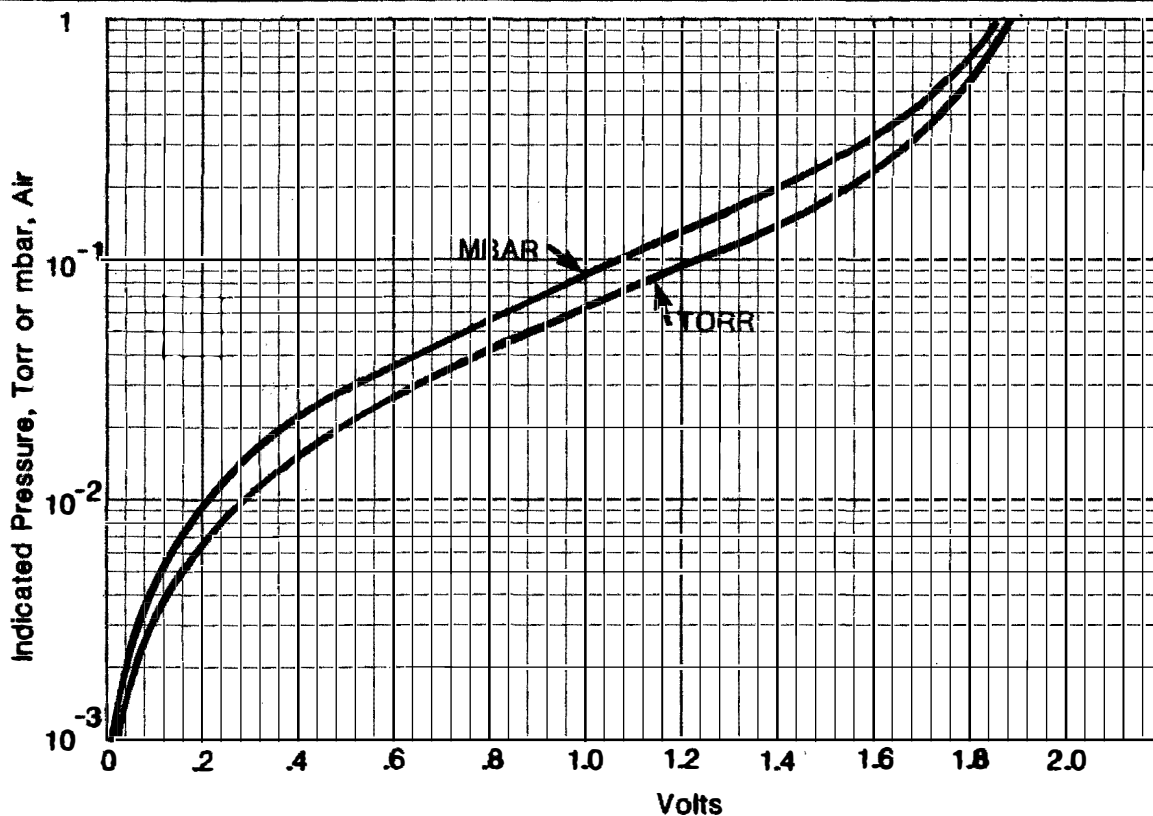

Fig. 4-4. THERMOCOUPLE GAUGE RECORDER OUTPUT
1. Thermocouple - The output of both TC's is available at the TC accessory connector (refer to Section 3 for pin information). This is a 0-2V dc signal corresponding to the meter scale with a source impedance of 1860 ohms. This allows a remote thermocouple meter (see parts list) to be directly driven if remote indication is desired. A graphical plot of output voltage versus pressure is shown in Fig. 4-4.